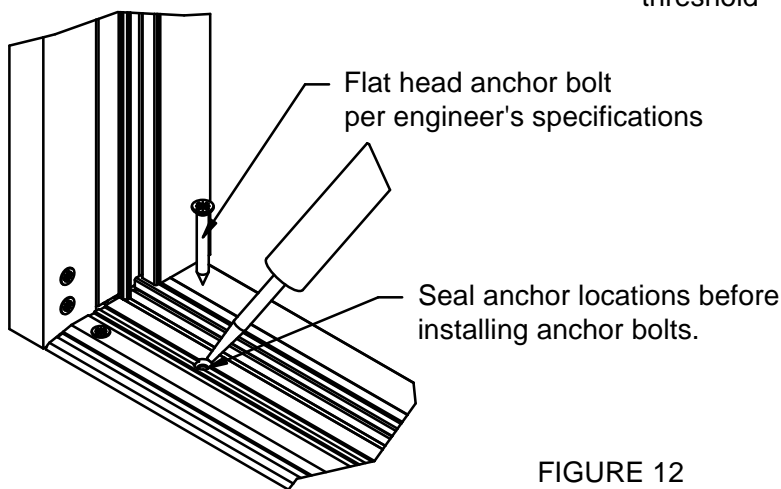

FIGURE 12
8. Install threshold back into frame attaching to threshold clips at each end. Inject sealant into each anchor hole and then install anchors into inserts or prepared holes. See FIGURE 12, pg 14.
3. The mid-seal gasket at the door header must be notched on each end as shown in FIGURE 12. Vertical gasket cut square typical.